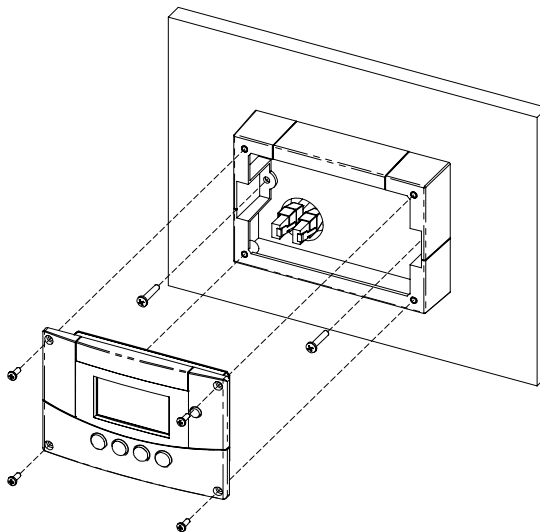

Figure 2-11 Surface Mounting the System Control Panel
6. Place the unit into the mounting bracket and secure it with four #6 screws. See Figure 2-11.